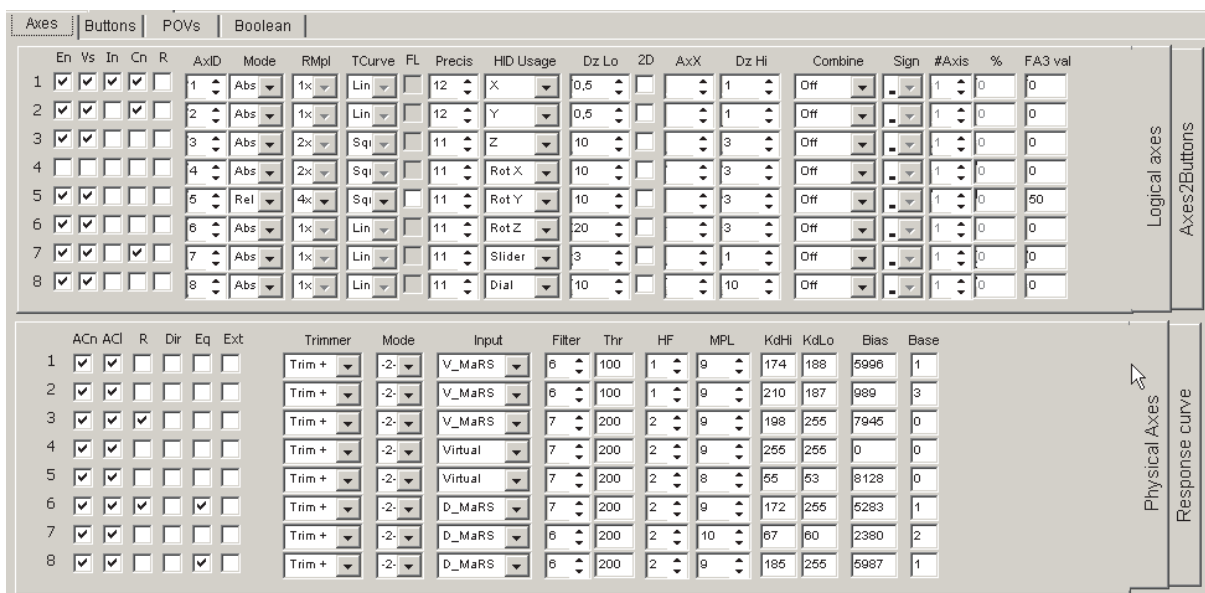

Fig. 3.1.
Open **Profile — Axes** tab (Fig. 3.1) to configure axes.
**Physical Axes** tab (Fig. 3.1) contains control items to configure physical parameters. See their description in Table 3.1.
Use control items of **Logical Axes** tab (Fig. 3.1 on p. 31), to configure logical axes parameters. See parameters description in Table 3.2.